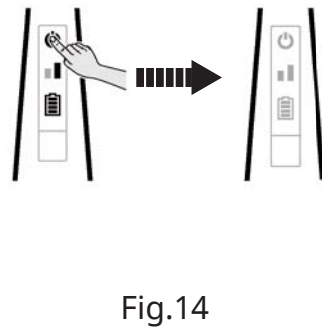

Fig.14
- After vacuuming, turn the unit off by touching the power icon for 2 seconds. (Fig.14)